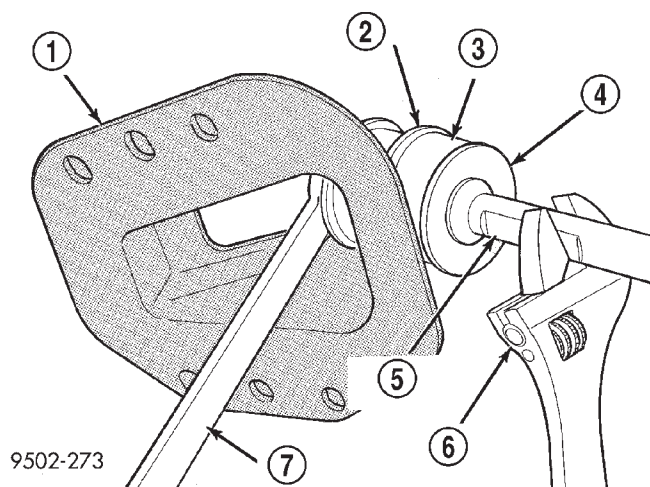

Fig. 37 Separating Trailing Link From Hanger Bracket
(6) Separate the trailing link from the hanger bracket. To separate trailing link from hanger bracket, use a large adjustable wrench on flat of trailing link to turn link while holding nut stationary (Fig. 37).
NOTE: When installing trailing link into hanger bracket, the flat on the trailing link (Fig. 37) must be positioned at the hanger bracket.